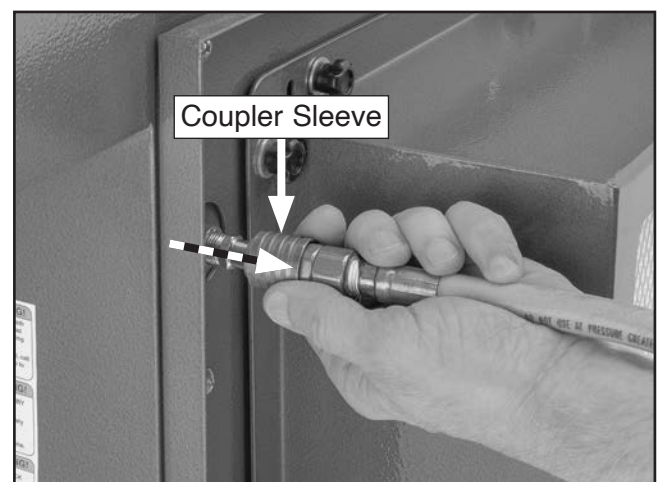

Figure 37. Pushing coupler sleeve to release plug.
4. Push air supply quick-connect coupler sleeve away from downdraft table to release plug and remove coupler (see **Figure 37**).